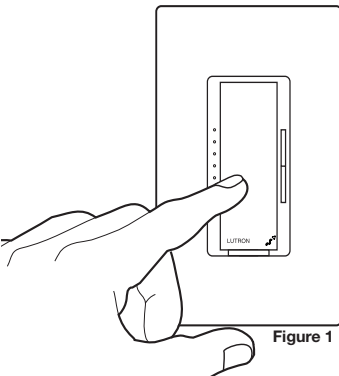

Figure 1
- 1 Press and hold the Dimmer/Switch's Tap Button (Figure 1) for approximately 6 seconds. Once the LED(s) start to blink slowly, release the Tap Button.